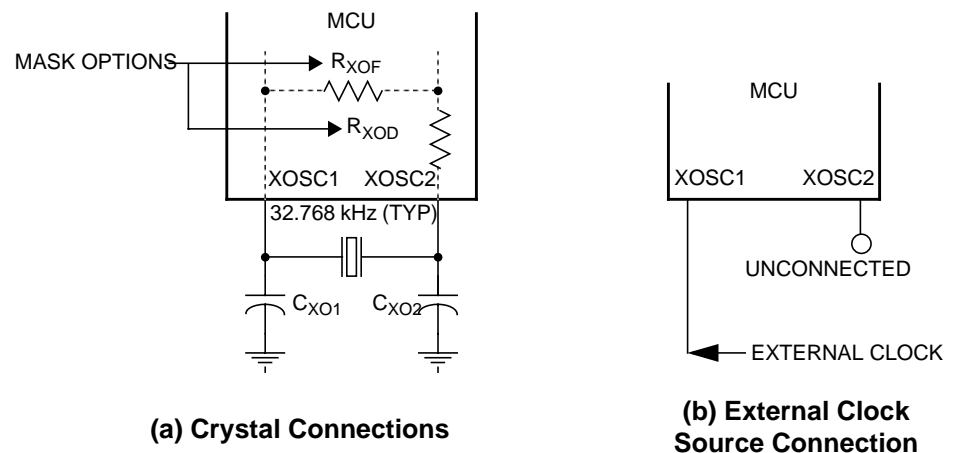

Figure 1-4. Oscillator Connections
- A crystal as shown in Figure 1-4\(a\)
- An external clock signal as shown in Figure 1-4\(b\)
The circuit in **Figure 1-4(a)** shows a typical 2-pin oscillator circuit for an AT-cut, parallel resonant crystal. The crystal manufacturer's recommendations should be followed, as the crystal parameters determine the external component values required to provide maximum stability and reliable startup. The load capacitance values used in the oscillator circuit design should include all stray capacitances. The crystal and components should be mounted as close as possible to the pins for startup stabilization and to minimize output distortion. An internal startup feedback resistor of R_{XOF} between XOSC1 and XOSC2 and a damping resistor of R_{XOD} in series to XOSC2 may be selected as a mask option. Typical R_{XOF} resistor value is 15 M Ω , and R_{XOD} resistor value is 1 M Ω .
An external clock from another CMOS-compatible device can be connected to the XOSC1 input, with the XOSC2 input not connected, as shown in **Figure 1-4(b)**. This configuration is possible regardless of how the oscillator is set up.